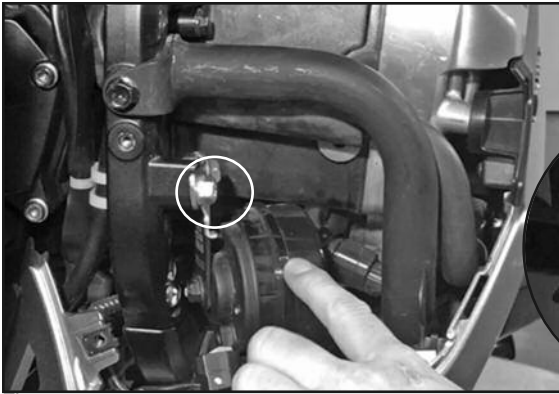

Figure 5
5. Remove the horn. Remove stock screw to temporarily remove the horn. **(12mm Box Wrench or Socket. Figure 5**